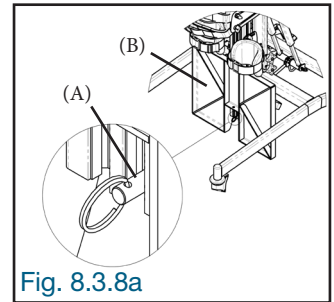
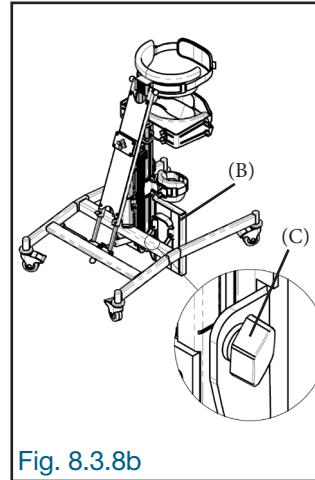
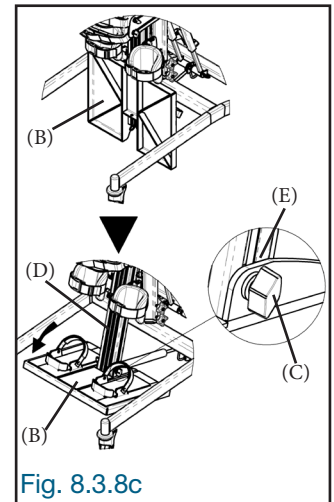

Fig. 8.3.8a
Fig. 8.3.8b
Fig. 8.3.8c
8.3.8 Remove the quick-release pin (A) from under the foot plate (B) (Fig. 8.3.8a). Loosen the locking knobs (C) slightly on each side of the foot plate (B) (Fig. 8.3.8b). Tilt the foot plate (B) downwards so that it is perpendicular to the frame (D). Ensure that it is aligned with the positioning mark (E) (Fig. 8.3.8c). Tighten the locking knobs (C) firmly on each side of the foot plate (B) (Fig. 8.3.8c).